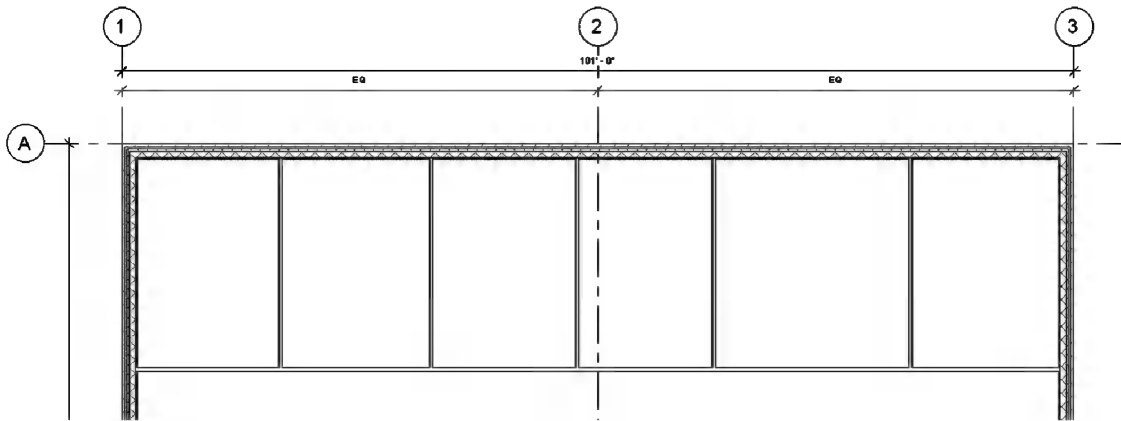

FIGURE 2-1.16 Adding additional interior walls
42. Using the same settings as the interior wall just added, draw five (5) vertical walls as shown in Figure 2-1.16.